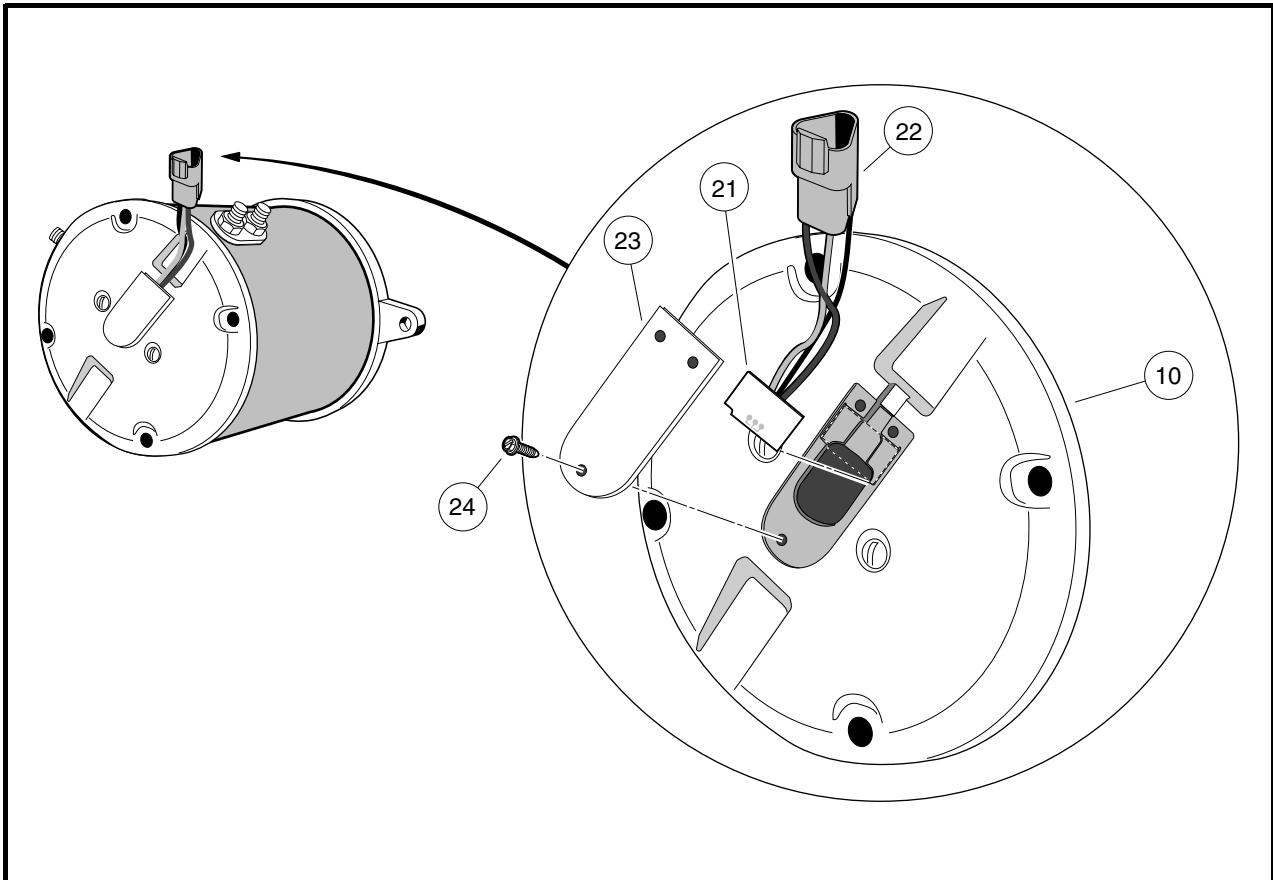

Figure 15-18 Installing the Motor Speed Sensor
2. Disconnect the three-pin connector (22) (**Figure 15-18, Page 15-14**).
3. Remove the three retaining screws (24) from the retaining plate (23) located on the motor end shield (10) (**Figure 15-18, Page 15-14**).
4. Remove motor speed sensor (21) from recessed area on motor (**Figure 15-18, Page 15-14**).
1. Position the motor speed sensor (21) in the recessed area on the motor. Sensor should fit flush against the motor (**Figure 15-18, Page 15-14**).
2. Position retaining plate (23) over motor speed sensor and align the three retaining plate holes with motor end shield holes. Install three retaining screws (24) (**Figure 15-18, Page 15-14**).
3. Reconnect the three-pin connector (22) (**Figure 15-18, Page 15-14**).